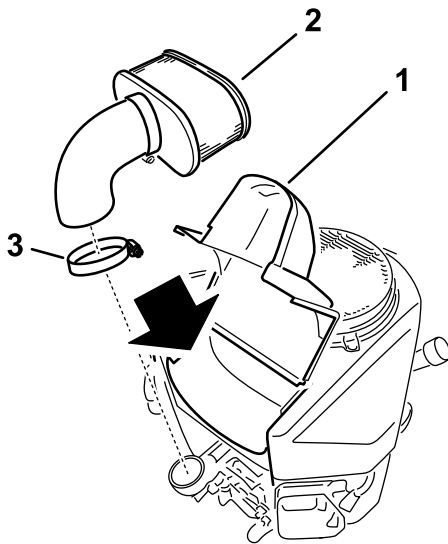

Figure 33
4. Loosen the hose clamp and remove the paper element (Figure 33).